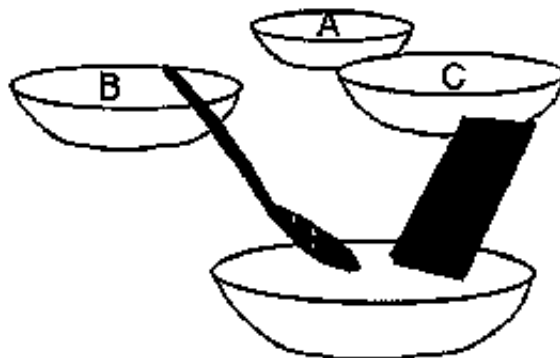

Figure 12.1: Arrangement of bowls for triaxial mixing.
- Place 3 bowls with the mixtures in front of you: B on the left, C on the right, A in the center. Right in front of you place an empty bowl. See figure 12.1